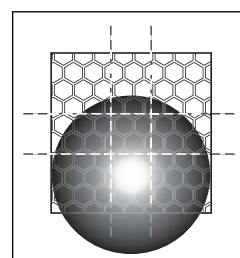

Fig 21
7. Now turn the other thumbwheel and carry out the steps described in points 3 to 6. **Figs 21 and 22** correspondingly show the tilting movement.